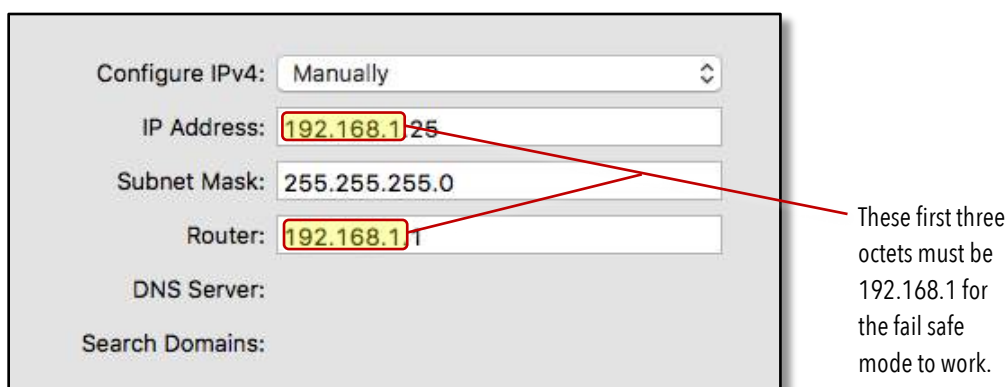

Figure 40. Creating a Network Environment for Fail Safe Mode
2. Open that computer's network settings window, such as the example shown in Figure 40, and assign the following:²